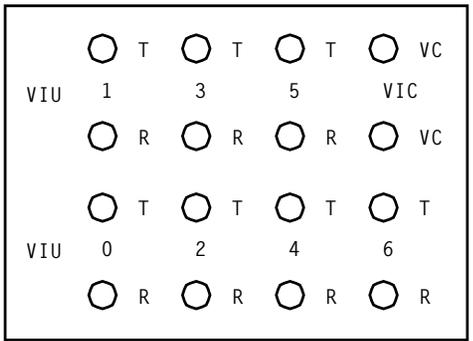

FIG. 5 - VIU Port Locations
[6] At degrowth VIF frame, disconnect T and R cables (2) from degrown VIU output ports per FIG. 5